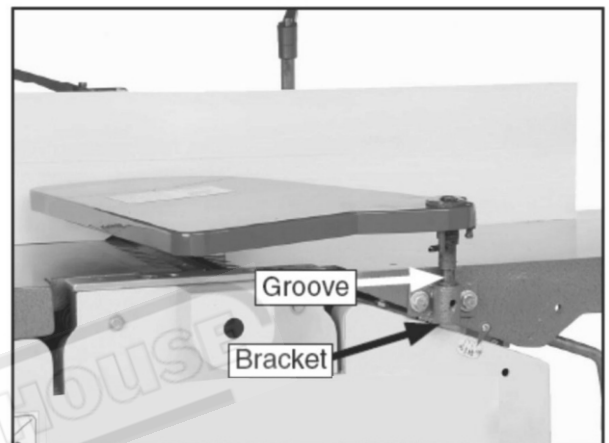

Figure 10. Installing cutterhead guard.
1. Remove the shaft lock knob and insert the cutterhead guard shaft into the bracket hole as shown in **Figure 10**.
3. thread the lock knob into the bracket so the threads fit into the shaft groove (**Figure 10**). And secure the guard into place. Adjust the guard and lock knob as needed so the guard fully covers the cutterhead.